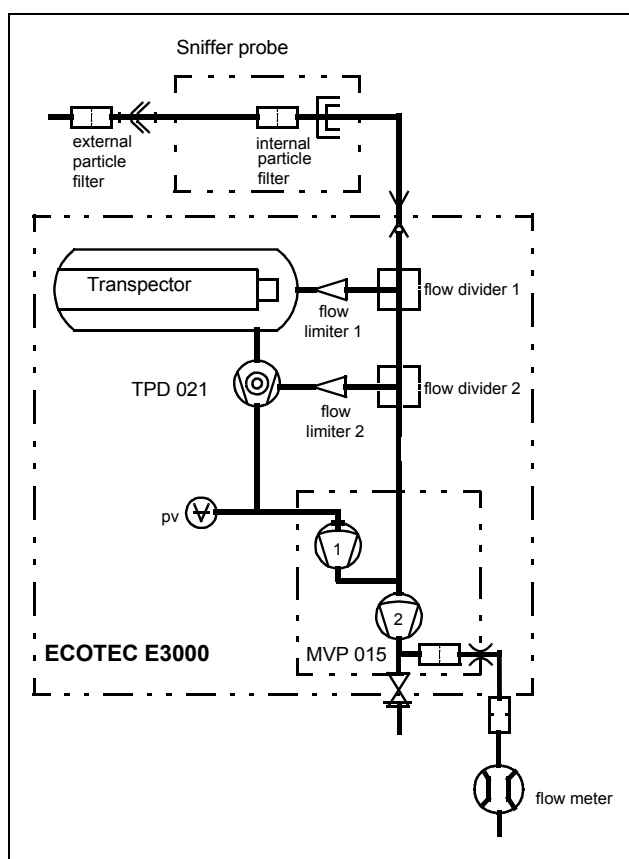

Fig. 2-1 Vacuum Diagram of the Ecotec E3000
**Notice:** The local regulations for electrical connections must always be observed (in Germany VDE 0100). The mains voltage rating for the Ecotec E3000 can be read off from the name plate left of the power switch. The mains voltage setting of the Ecotec E3000 is fixed and can not be changed. A separate fuse for each of the mains conductors has been integrated into the mains socket (Fig. 2-1/6).